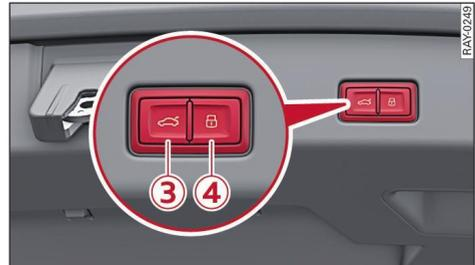

Fig. 11 Boot lid: ③ close button, ④ lock button
- ▶ Press the  button  ⇒ Fig. 11 inside the boot lid, or